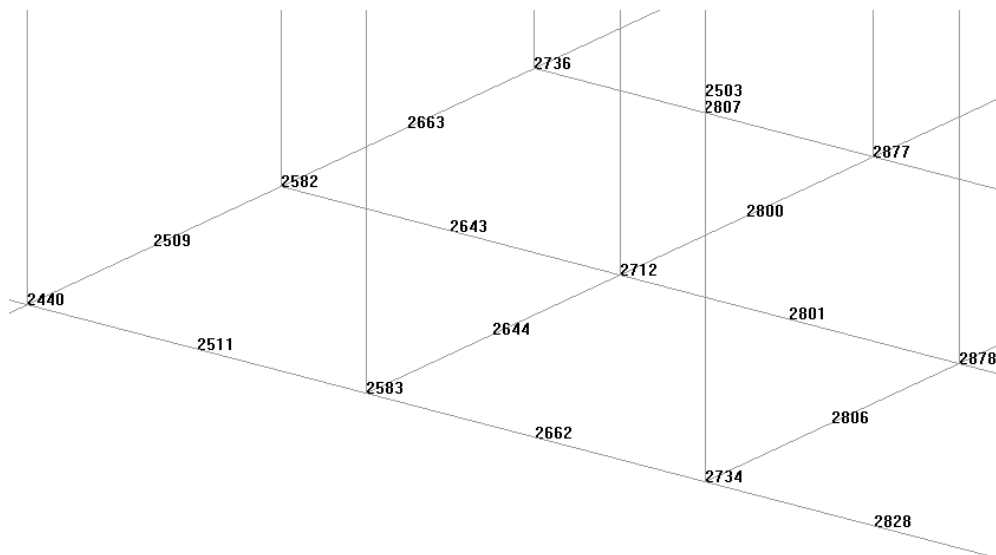

Figure 16. Each number identifies a node. There is a node at each element vertex and at the midpoint of each edge.
- 7 . Once the mesh has been generated, select **Label->All in->Points** . The result is shown in Figure 16. Now, there are not only nodes at the vertices, but also at the midpoints of the edges of the elements.